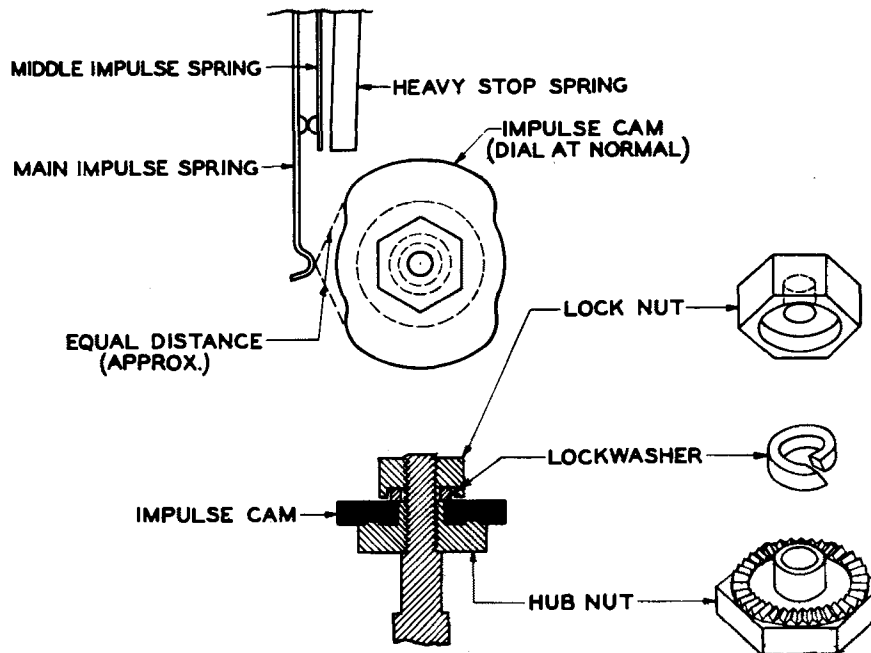

Fig. 13: Impulse Cam Assembly
e. Impulse Cam. -- Detach impulse cam in the following manner. Use wrench H-25937 to hold the large (hub) nut under the cam. Then loosen the small lock nut with the cam nut socket wrench (H-16480). Do not lose the small lock washer which lies beneath the nut. See figure 13. The cam is designed to give an impulse ratio of 38.5% make.
e. Impulse Cam (figure 13). -- Screw the knurled impulse cam nut, knurled side up, tight on the end of the worm gear shaft. Apply one dip of oil to the edge of the fibre cam, and then wipe off the surplus oil. Place the impulse cam on the pinion shaft with its long axis parallel to the impulse springs. Place the small lock washer on the cam and tighten clamping nut. Be certain to hold the knurled cam nut with cam nut wrench (H-25937) and tighten the clamping nut with the cam nut socket wrench. By holding the larger cam nut with the wrench (H-16480), damage to the worm gear and governor is prevented.